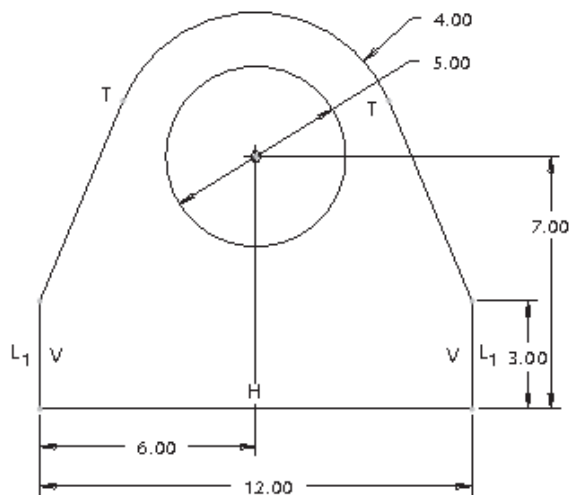

Figure 1-26 The complete sketch with dimensions and constraints
- Dimension the sketch and then modify the dimensions of the sketch, refer to Figure 1-26
The sketch is complete and is shown in Figure 1-26.